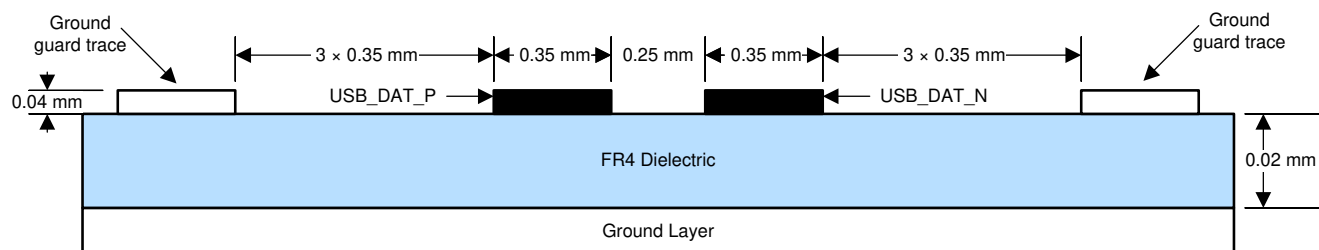

图 9-13. USB Layout Example
- (1) If using the minimum trace width and spacing to escape the Controller ball field, widening these out after escape is desirable if practical to achieve the target 100 Ω impedance (e.g. to reduce transmission line losses).
- (2) One pcb layout example for the differential pair is shown in 图 9-13